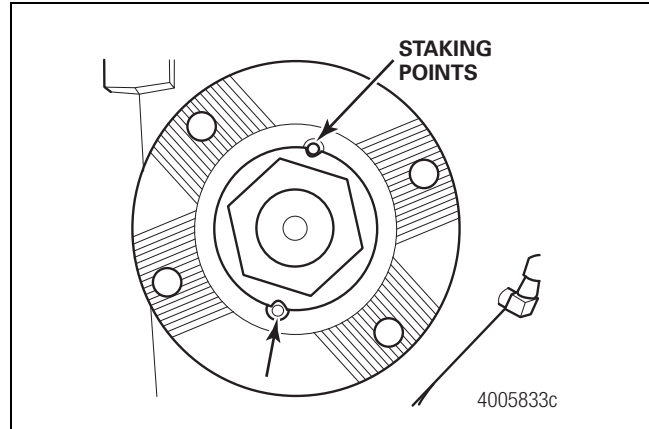

Figure 5.14
22. Stake the nut on both side using a rounded tip tool to achieve approximately 0.11 inch (3 mm) in depth. Figure 5.14.